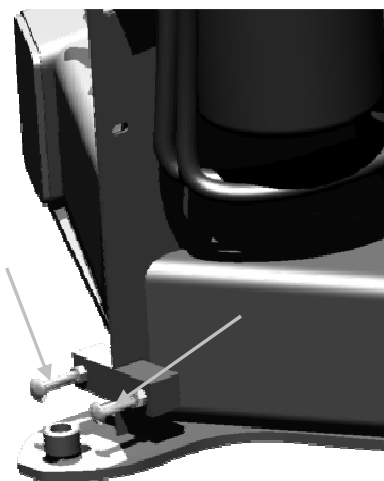

Figure 5
6. Remove the two carriage bolts shown in Figure 5 by first loosening the jam nuts using a 9/16" wrench.